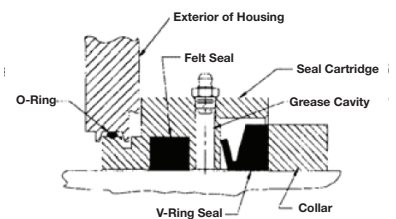

Figure 10
11. Locate collar (above 7" bore) at the side of each seal cartridge (Figure 10). Tighten set screw to 120 in.-lbs.